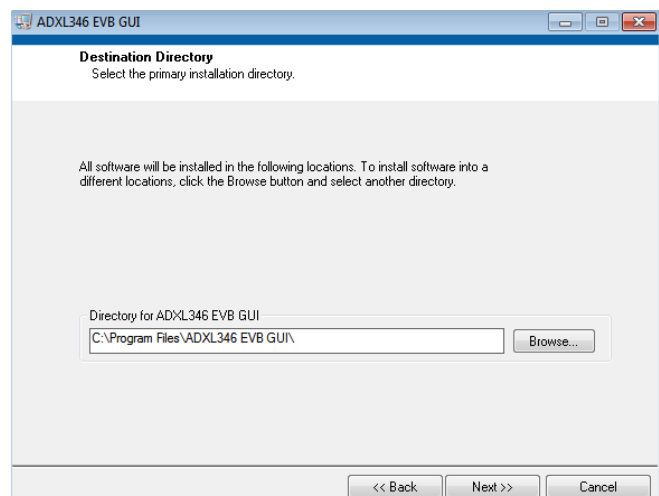

Figure 11. ADXL346 EVB GUI Destination Directory Selection
1. Select the destination directory. The installer autopopulates the names of the directories in which to store the software GUI and required National Instruments products (see Figure 11). You can change these directories; however, most installations can proceed with the default values.